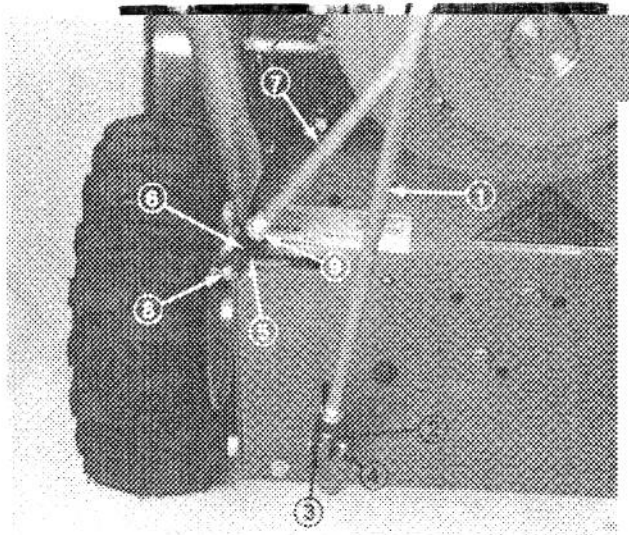

Figure 35
6. Loosen jam nut from clevis at bottom of longest wheel drive control rod (Fig. 35). Next remove cotter pin and clevis pin holding clevis to link arm (Fig. 35). If rubber drive wheel is too close to the front pulley, lengthen the rod by rotating clevis (Fig. 35) one full turn counterclockwise. By contrast, if rubber drive wheel is too close to the rear friction disc, shorten the rod by rotating clevis (Fig. 35) one full turn clockwise.
8. Move wheel drive control to N, neutral. Next, connect clevis to link arm with clevis pin and cotter pin (Fig. 35). Also, tighten jam nut against top of clevis (Fig. 35). Lastly, install rear shroud with four thread forming screws, and move snowthrower back to its normal position.